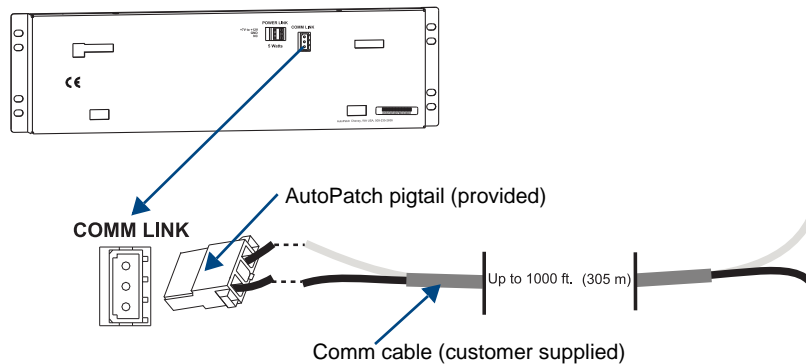

FIG. 5 Plug pigtail into the Comm Link
2. On the rear of the panel, plug the AMX AutoPatch pigtail into the Comm Link connector (FIG. 5).